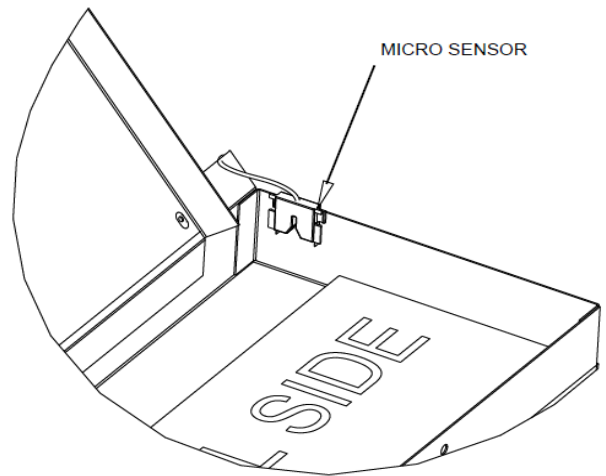

FIGURE 22
- Fix the micro sensor on the mounting bracket by sliding the micro sensor onto the drain pan as shown in Figure 22. Adjust depth of the sensor as needed.